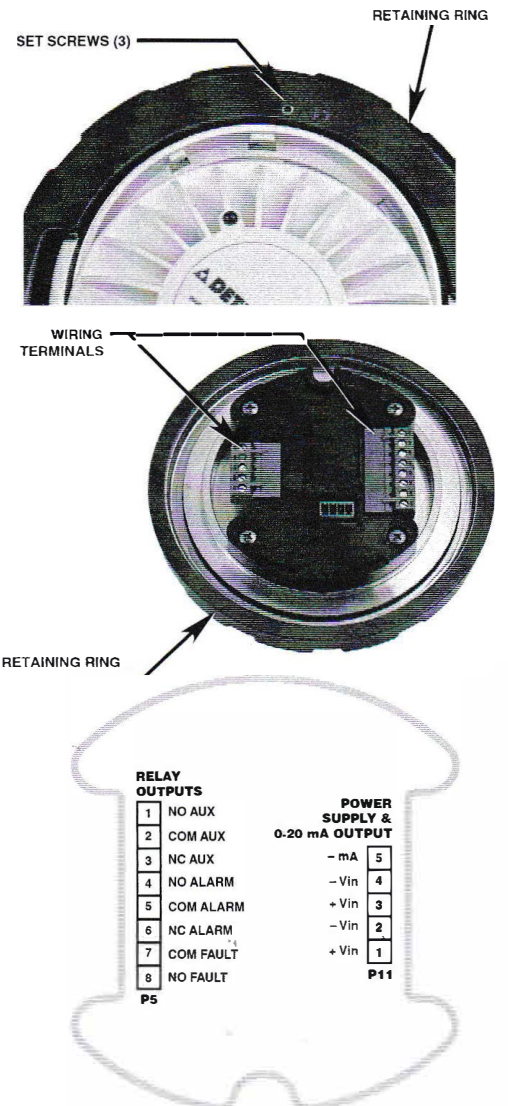

Figure 9
- Figure 9 shows the wiring terminals.